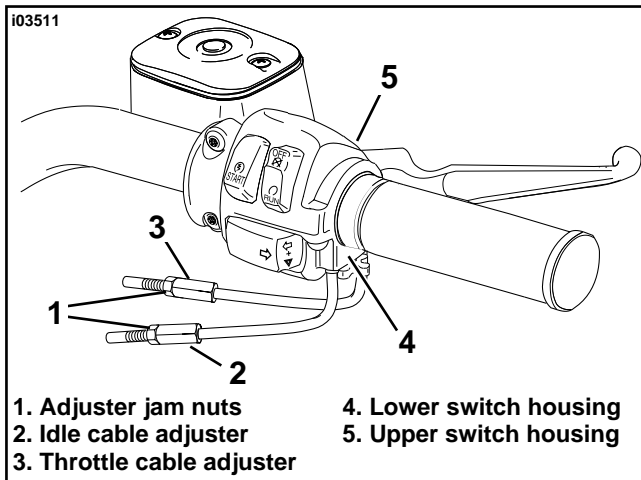

Figure 3. Handlebar Throttle Control
9. See Figure 3. Remove the brass ferrules from the notches on the inboard side of the throttle control grip. Remove the ferrules from the cable end fittings. Remove the grip from the handlebar.